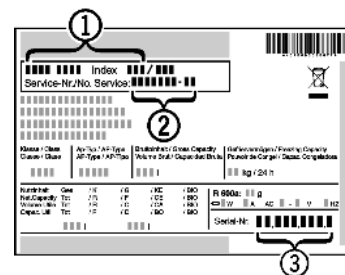

Fig. 54
- ▶ Read off the appliance name *Fig. 54 (1)*, service no. *Fig. 54 (2)* and serial no. *Fig. 54 (3)* from the model plate. The model plate can be found on the inside of the appliance on the left.